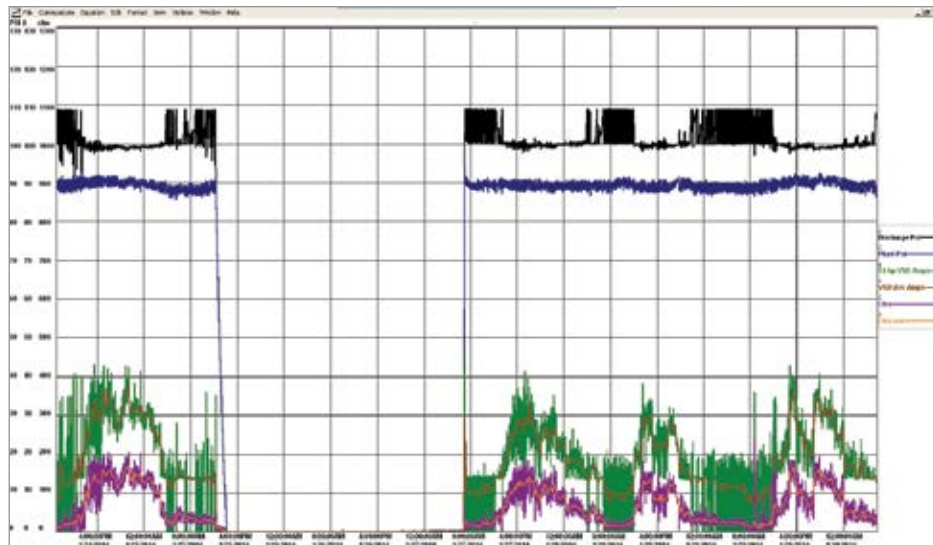

Figure 5: Final profile shows the compressor power tracks the actual flow and is much lower than the original profile.
- VSD control and cycling refrigerant dryers were used to minimize operating costs at partial loading. This reduced the system specific power to 23 kW per 100 cfm from the original value of 77 kW/100 (Figure 5).